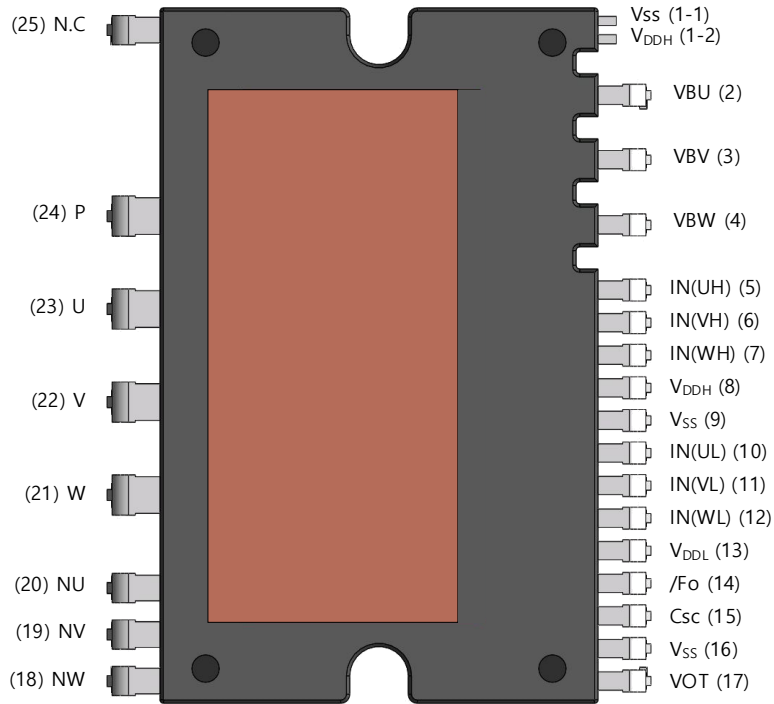

Figure 2. Pin Configuration – Top View
2. For the measurement point of case temperature (T_c), please refer to Figure 2.